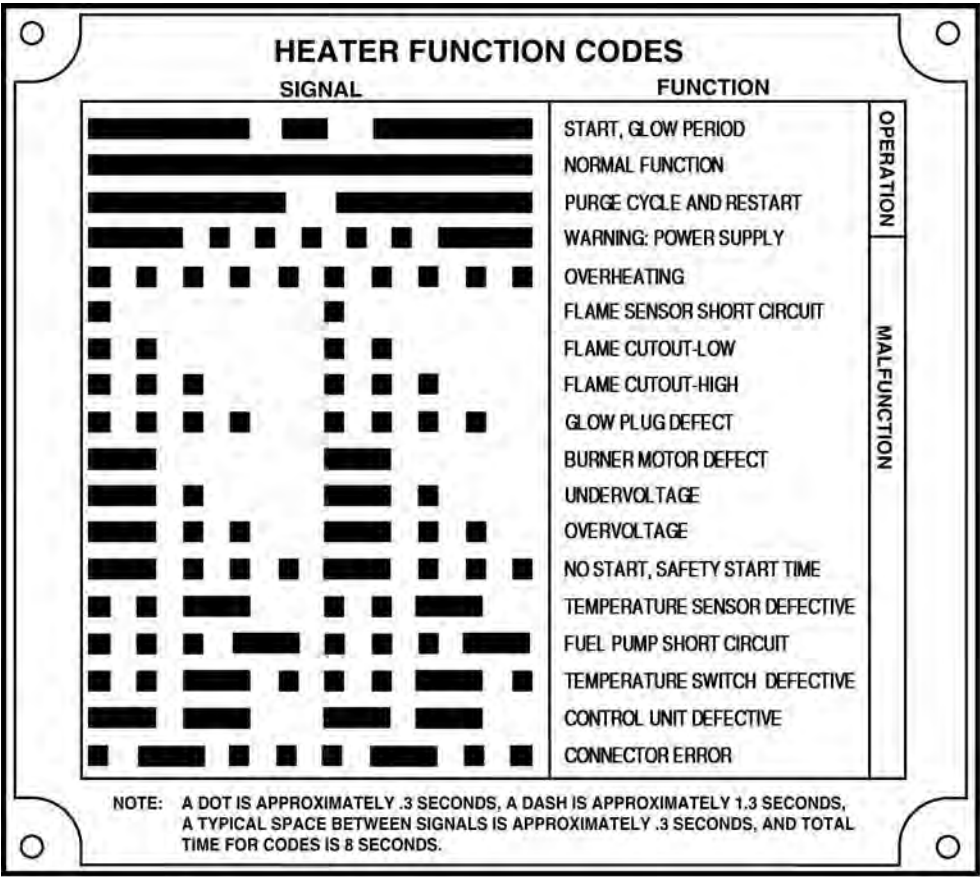

Figure 3-1. Heater Function Codes Plate.
Refer to TM 9-6115-644-10 for generator troubleshooting instructions. This section lists common malfunctions you may find during operation of the generator with the Winterization Kit installed and the generator set is running. You should perform the tests/inspections and corrective actions in the order listed. Each malfunction listed on Figure 3-1 includes a reference to the troubleshooting figure that contains a glow chart to help determine probable causes and corrective actions to take. The troubleshooting symptom index cannot list all faults that may occur, nor all the tests or inspections and corrective actions. If a malfunction is not listed or cannot be corrected by listed corrective actions, notify your supervisor.
**3-1.1.1 Code Light Pulses.** The indicator light near the heater ON-OFF switch will blink in different sequences of long and short to indicate malfunctions. A plate (Figure 3-1) mounted on the generator control panel access door (Figure 4-30) lists the malfunctions and shows each sequence of pulses. If you see any of these series of pulses, notify next higher level of maintenance.
Refer to TM 9-6115-644-24 for generator troubleshooting procedures and to TM 9-2815-255-24 for engine troubleshooting procedures. In this section a symptom index for the kit lists faults associated with kit operation. The kit has an indicator light, which flashes in a sequence to indicate faults. These pulses are shown visually on the Function Codes plate mounted inside the generator control panel cover. Refer to Figure 3-1 and 4-2 for the Function Codes plate. Figure 4-3 through 4-19 show the same information for the kit. Each malfunction listed on the Symptom Index includes a reference to the troubleshooting figure that contains a chart that will help you determine probable causes and corrective actions to take. The symptom index cannot list all faults that may occur, nor all the test or inspections and corrective actions. If a malfunction is not listed or cannot be corrected by listed corrective actions, notify next higher level of maintenance for assistance.